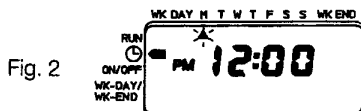

Fig. 2
- i) Press the SELECT button once so that the SETTINGS INDICATOR is pointing to the CLOCK position on the front of the programmer. The DAY OF THE WEEK INDICATOR will now flash (see figure 2).